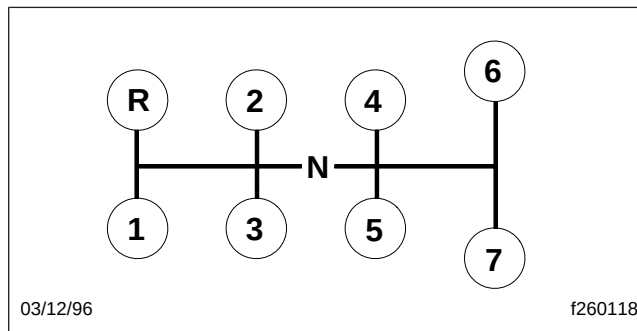

Fig. 8.19, TTC 7-Speed Transmission Shift Pattern
Fig. 8.19 for the shift pattern.
4. Use this progressive shifting technique to shift into each higher gear. See **Fig. 8.19** for the shift pattern.